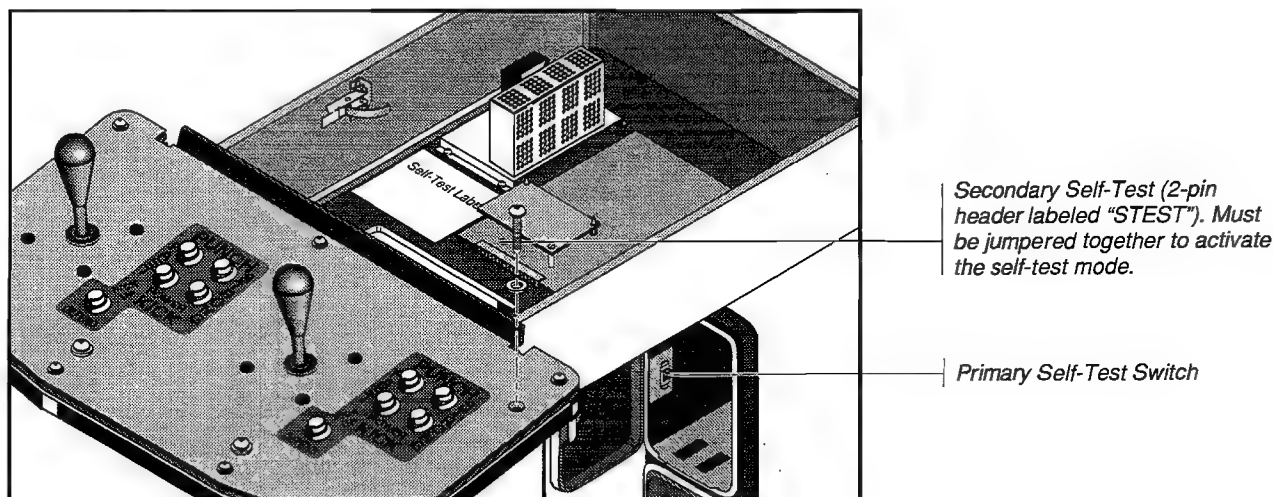

Figure 1-1 Self-Test Switch Locations
All of the controls are located inside the drawer or behind the coin doors (see Figure 1-1). The following describes the locations in more detail:
1. Reach in through the openings on the front of the drawer, and open the spring draw latch on each side. Pull the drawer out partly (see Figure 1-1).